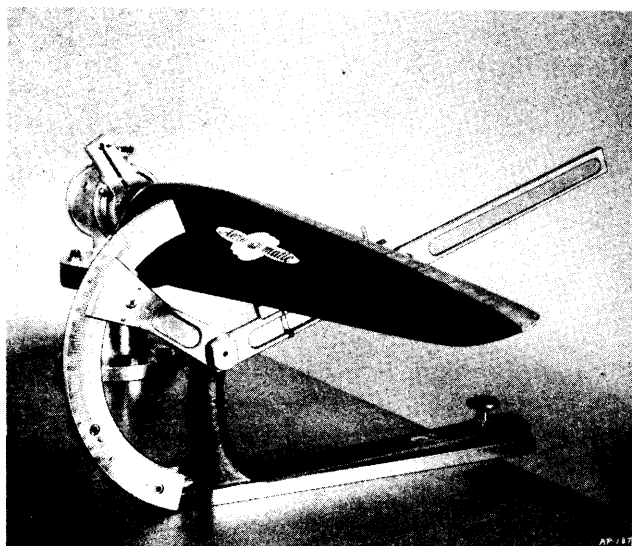

Figure 10. Measuring Phase Angle
c. MEASURING PHASE ANGLE. (See figure 10.)